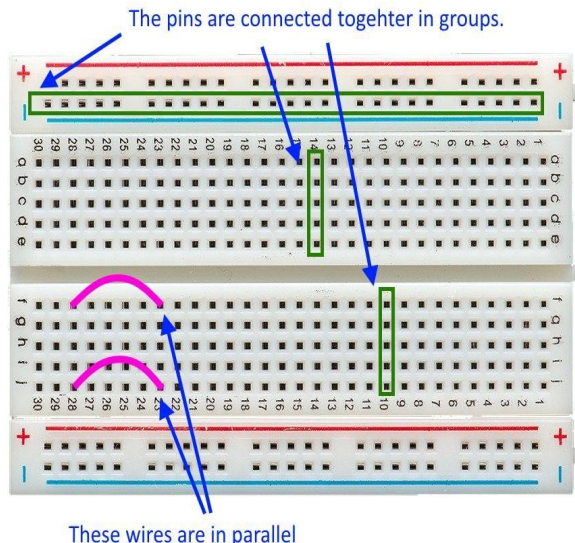

Figure 7: Breadboard connections
A breadboard is a rectangular plastic board with a bunch of tiny holes in it as shown in Figure 7. It is one of the most fundamental pieces of equipment when learning to build circuits and is used to make temporary circuits (i.e., prototypes). Notice in Figure 7 that rows are marked with alphabet letters and numbers represents columns.
- Inside these power and ground lines, we make our desired circuitry using the electronic components. The abcde holes are all connected vertically and likewise, fghij. This is also indicated by the two small green rectangles in Figure 7.